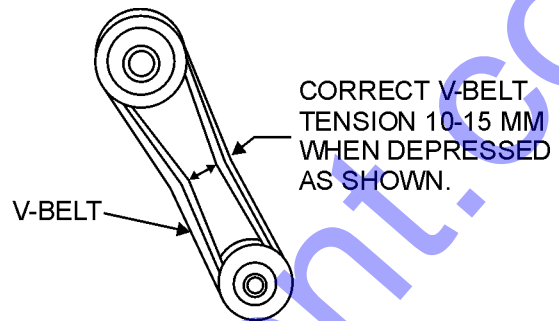

Figure 9. V-Belt Tension
2. The V-belt tension is proper if the V-belt bends 10 to 15 mm (Figure 9) when depressed with finger midway between the clutch and vibration pulley shafts.
- Place the fuel valve lever (Figure 9) in the **OFF** position.